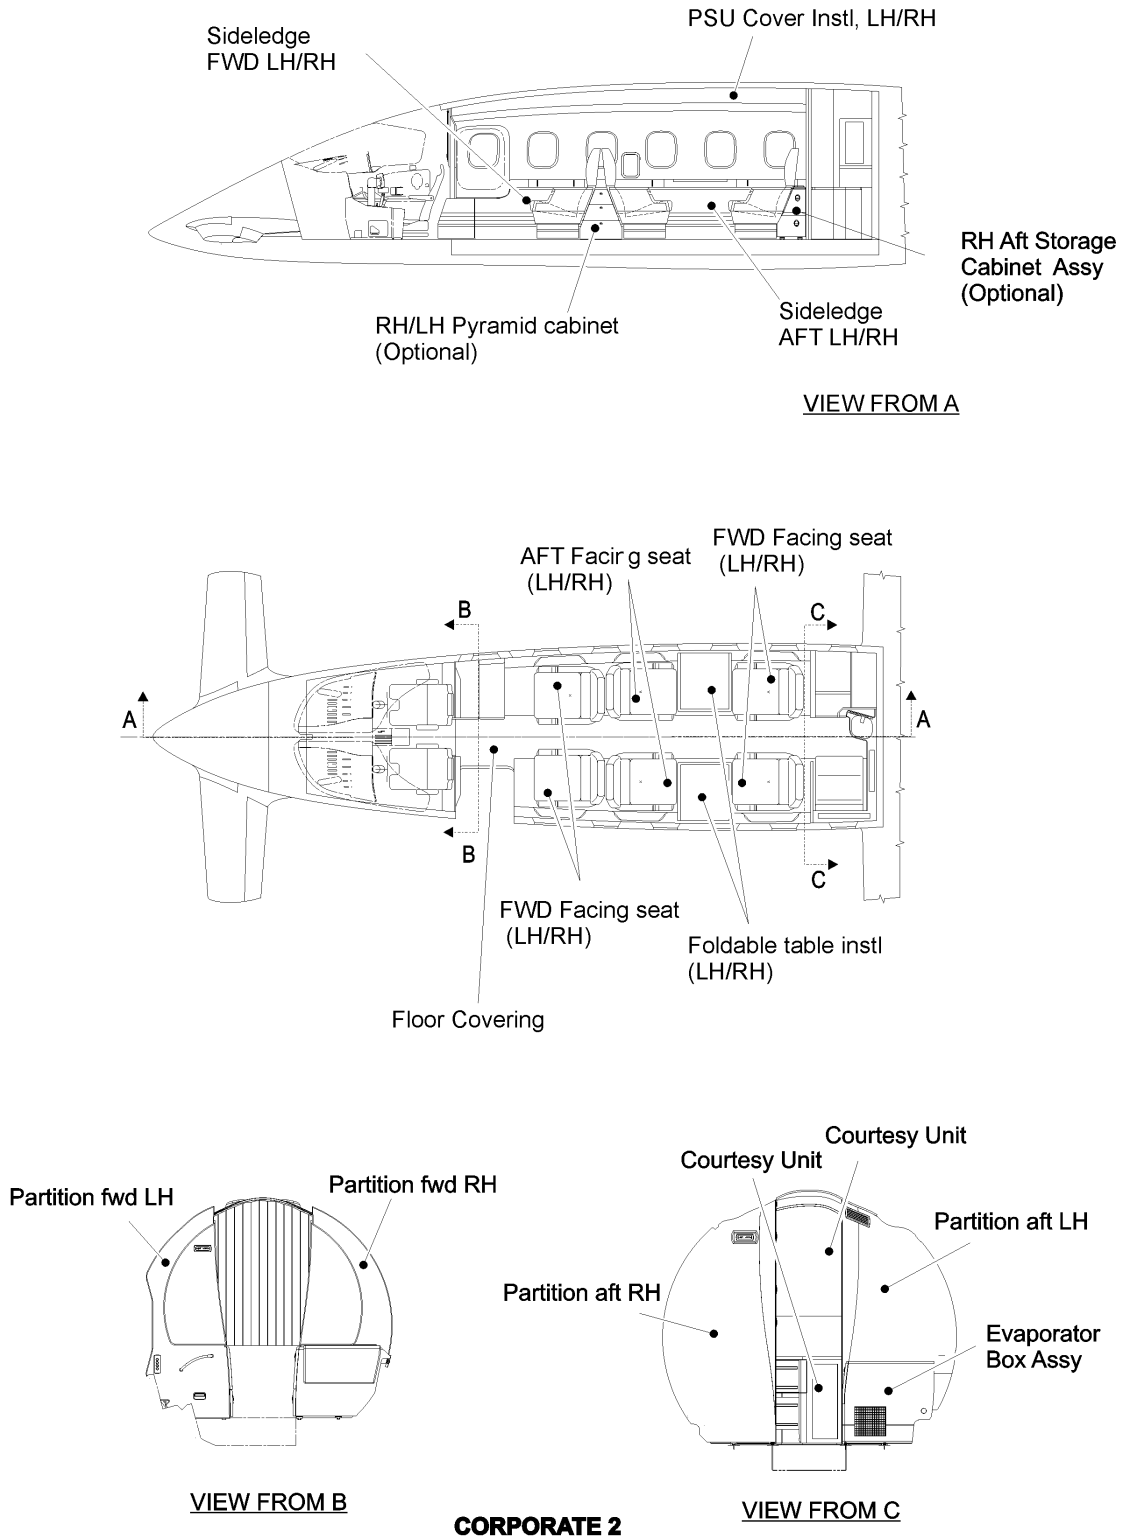

Fig. 13 - Corporate 2 Configuration
N. The Corporate 2 passenger compartment (Ref. to Fig. 13).